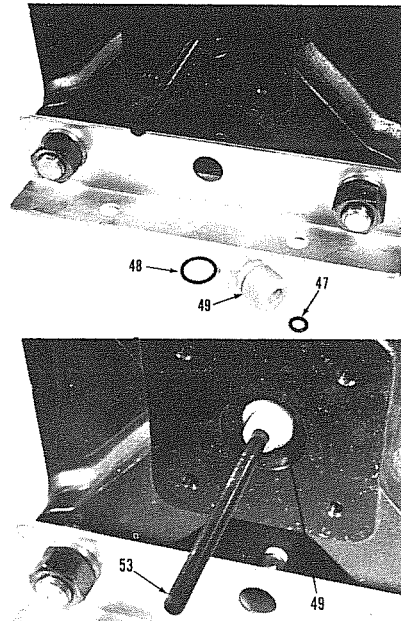

Figure 7-16, Assemble (upper) and install (lower) shifting rod seal and guide; replacement guide does not have smaller diameter neck.
7.2.12 Lubricate o-rings (47 and 48) with Molykote® and install in groove and recess of shifting rod seal and guide (49). Install guide (49) into air end plate (50). See Figure 7-16. Use Teflon® tube and mallet to seat guide fully in hole.